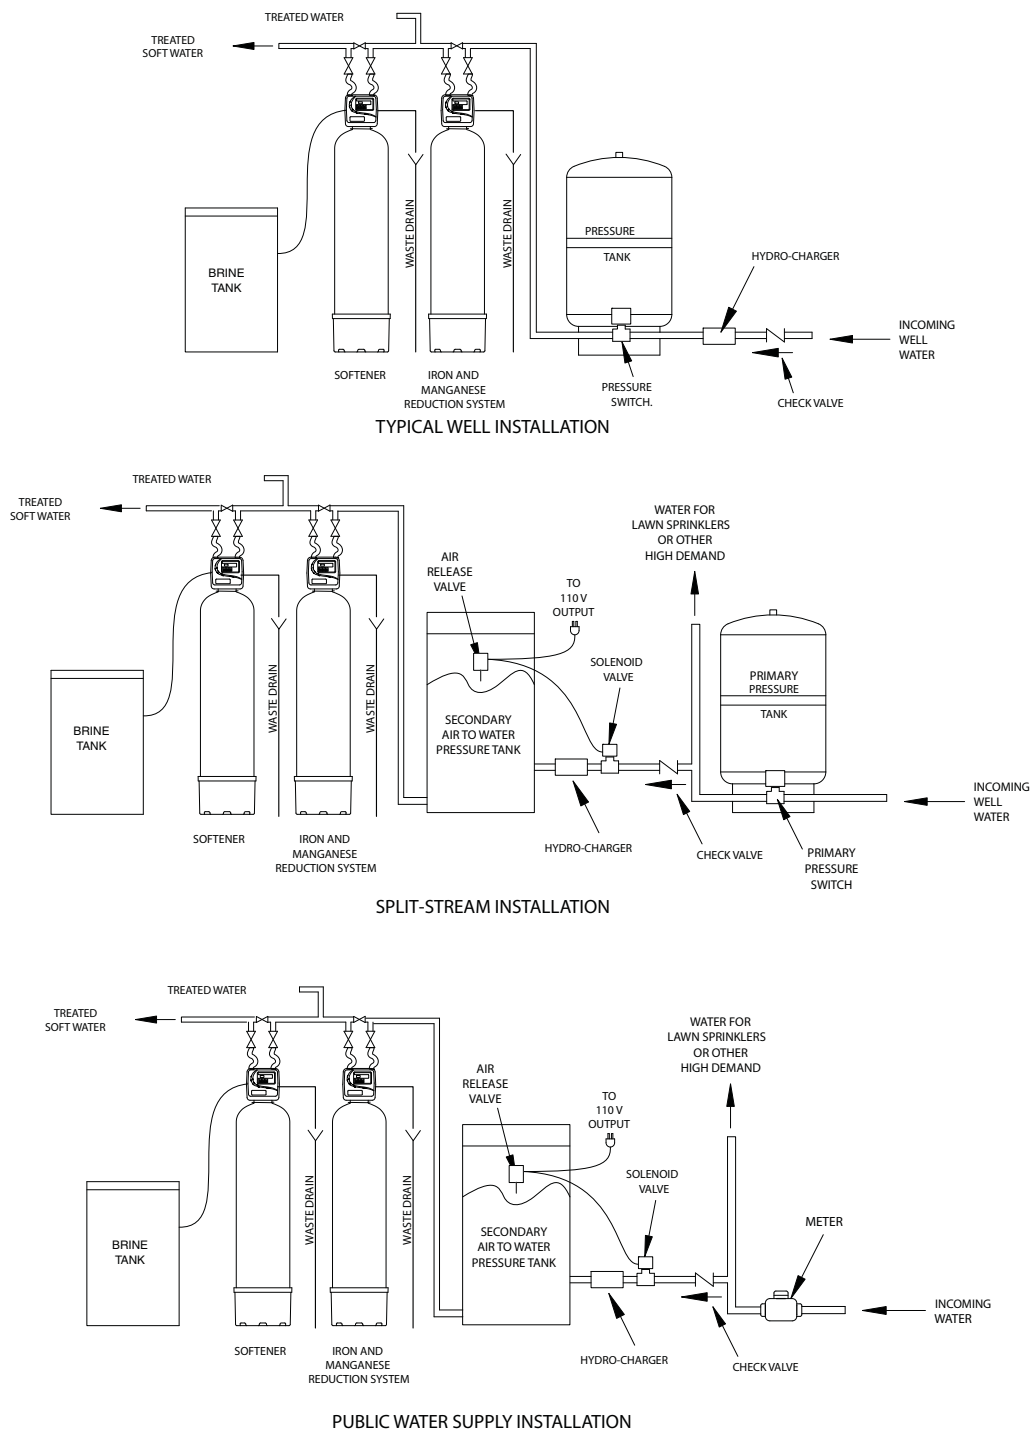
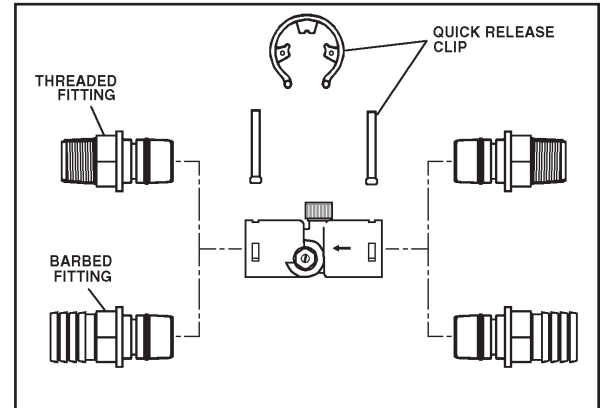

Figure 1
Figure 2: Hydro-Charger Installation
- 3) Locate in correct relationship to other water conditioning equipment (Figure 1, page 3-1).
Cut main supply line as required to fit hydro-charger in plumbing between well pump and pressure tank (hydro-charger may be installed in a vertical or horizontal position). The hydro-charger has been supplied with both 1” threaded and 1” barbed (insert) fittings to allow for installation with various types of piping materials. When using the threaded nipples, use thread tape only. When using barbed (insert) fittings, appropriate pipe clamps must be used. Once installed the quick release nipples allow the hydro-charger to be rotated, so the air draw adjustment screw is accessible for adjustment by a small bladed screwdriver. Allow at least 10 inches of straight run of 1” pipe on both INLET and OUTLET side of the hydro-charger. Refer to Figure 2 for correct assembly. The quick release nipples also act as a union to facilitate the hydro-charger removal, inspection and cleaning as needed. With an installation on PVC pipe and copper tubing it may require the addition of a plumbing union to aid in removal from the plumbing due to the rigidity of that type of material. Make certain the directional arrows on the hydro-charger point towards the pressure tank and the pressure control switch is located on the pressure tank side of hydro-charger as in Figure 1. Rapid cycling of pump may occur if the pressure control switch is located on well side. If a check valve is located between hydrocharger and pressure tank, it may prevent the hydro-charger from performing properly. Relocate to well side of hydro-charger.
- **If installation is to be split streamed prior to tank or is it a public water supply (see figure 1), or refer to special instructions on page 3-11.**